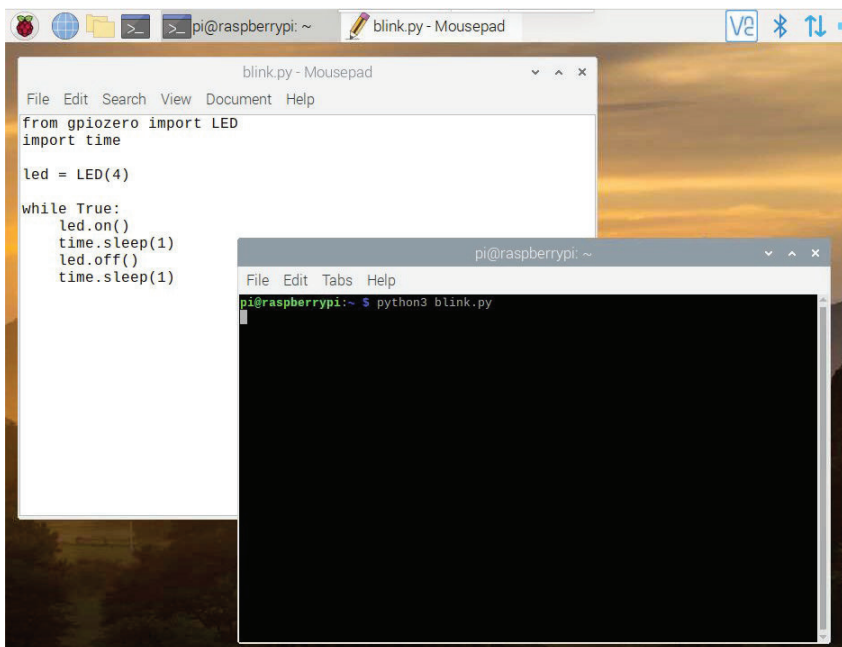

Figure 7-1. Using a text editor and LXTerminal to edit and launch Python scripts.
To blink an LED on and off with Python, you're going to use the statements that you already tried in the interactive interpreter, in addition to a few others. For the next few steps, we'll assume you're using the desktop environment (as shown in Figure 7-1), but feel free to use the command line to write and execute these Python scripts if you prefer.
4. Open LXTerminal, then use these commands to make sure the working directory is your home directory, and execute the script (see Figure 7-1):